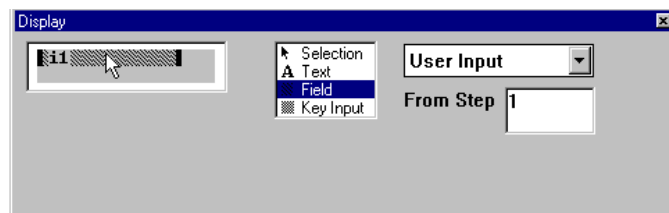

Figure 2-51 Display - Default Field Object
5. The field object defaults to **User Input** from **Step 1**; this is indicated by the **i1** in the field object. When the field object is selected, its information is displayed to the right of the tool palette. (Figure 2-51 shows **User Input** from **Step 1** as the information. This means that the user input from the Input Handler in Step 1 will be displayed in this area when this Input Handler is the “current” Handler.)